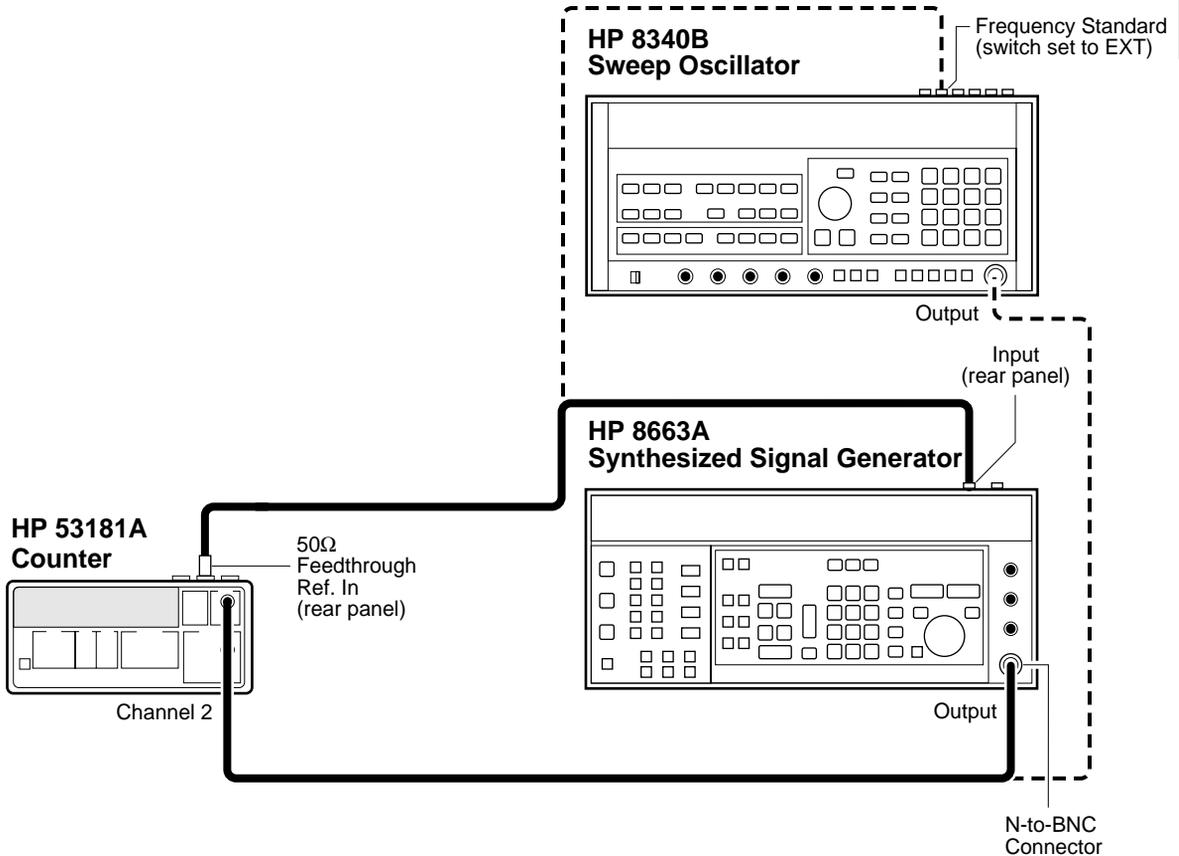

Figure 1-14. Option 015/030/050 Channel 2 Frequency Test
- 1 Set the HP 8663B Synthesized Signal Generator to output a 500 MHz, -60 dBm sine wave and connect the signal to Channel 2 of the Counter as shown in Figure 1-14.
- 1 Set the HP 8663B Synthesized Signal Generator to output a 500 MHz, -60 dBm sine wave, and connect the signal to Channel 3 of the Counter as shown in Figure 1-14.**
- 1 Disconnect the HP 8663A Synthesized Signal Generator from the Counter (see Figure 1-14), and connect the HP 8340B Sweep Oscillator to Channel 3 of the Counter.**